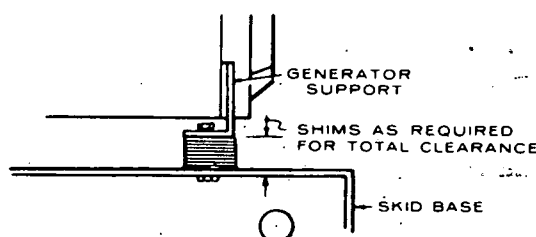

FIGURE 9
4. Remove the jackscrews and reinstall as mounting bolts through generator support, shims and skid base. Secure and lock the mounting bolts in place (Figure 9).